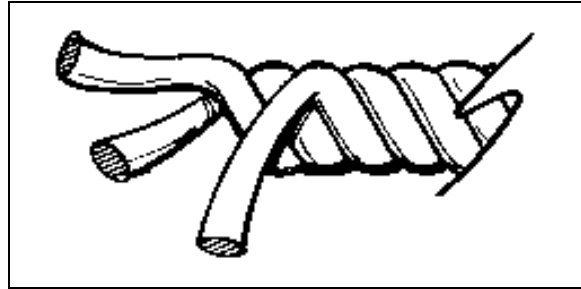

Figure 6-1. Nylon-laid rope.
(1) *Nylon-laid ropes.* Synthetic fibers are the best climbing and rappelling material. Nylon has become the standard material for climbing ropes and has replaced manila, flax, hemp, and sisal. The military mountaineering critical application rope is constructed in a *laid* fashion with continuous multifilament-nylon fiber yarn twisted into strands. Three strands are twisted into a climbing rope of a specific diameter (Figure 6-1). Nylon-laid ropes are easy to inspect for serviceability by twisting the fibers. Laid ropes tend to untwist slightly when under a load, causing kinking and spinning. They are also susceptible to abrasion. The following specifications pertain to the standard military nylon-laid climbing/rappelling rope: